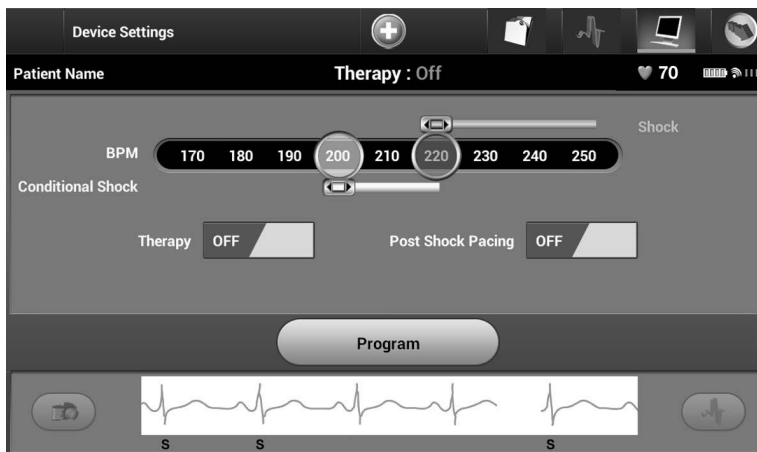

Figure 30: Device Settings screen
- Select the Device Settings icon on the Navigation Bar to display the Device Settings screen (Figure 30).